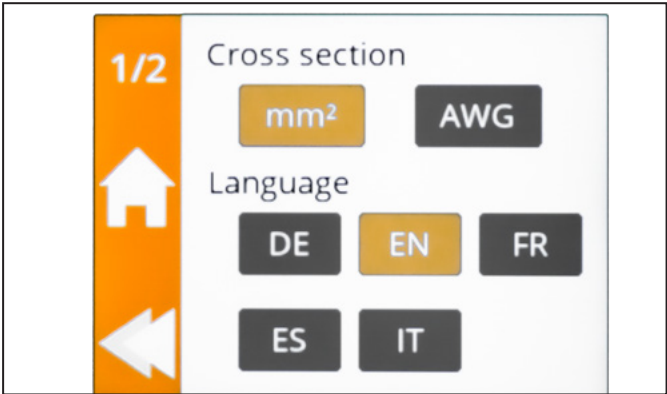

Figure 5.5 Settings menu 1/2
- Open the **Settings** menu, see Figure 5.5